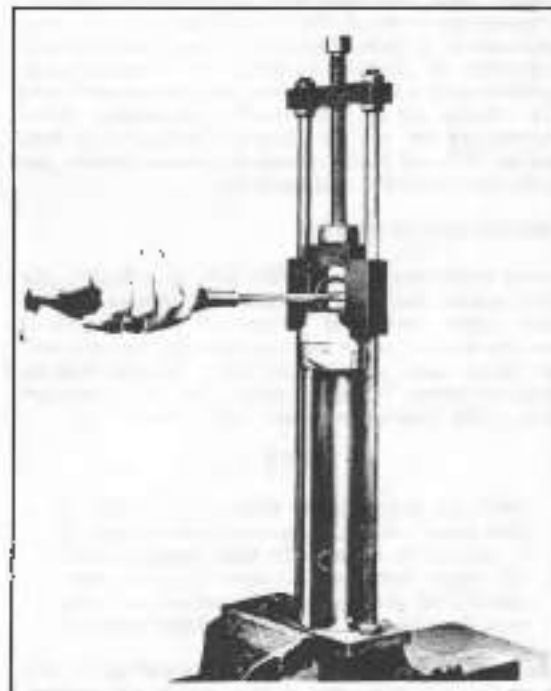

Figure 2F-19. Disassembling Shock Absorber (1966 & Earlier Shown)
1967 AND LATER (FIG. 2F-18A)
Apply a thin coat of grease to all surfaces of both cams. Note that cams (12) are identical and be sure to position cam lobes correctly as shown in Fig. 2F-18A inset. Place assembly in compressor tool and compress spring enough to install key halver (6). Release spring compression. Keys will lock into place in inside diameter of covers 7 or 7A. Install retaining ring (5).